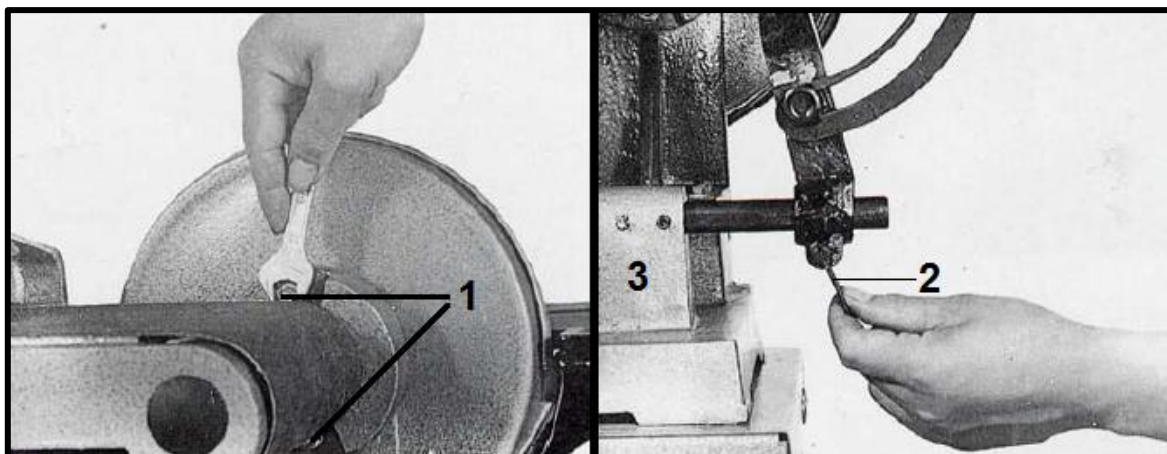

Fig.5
1. To put the belt grinder in vertical direction, first loosen the two nuts (1, fig.5). Now move the grinding belt in vertical position and firmly tighten the two nuts again.